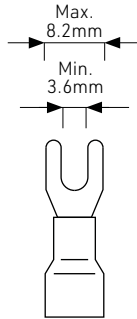

Figure 4: Fork Terminal Dimensions
Up to 14 loads may be connected. Loads are attached using female spade Quick Connects (QC). See *Figure 4: Quick Connect Dimensions*.